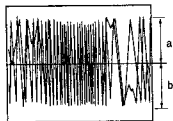

Fig.3 Maximum TRK error.
6. Turn the screwdriver counterclockwise until the TRK waveform's amplitude reaches the first maximum from the null point. (See Fig. 3.)
1. Adjust VR602 so that the TRK error waveform amplitude's positive and negative level become equal. (See Fig.3.)